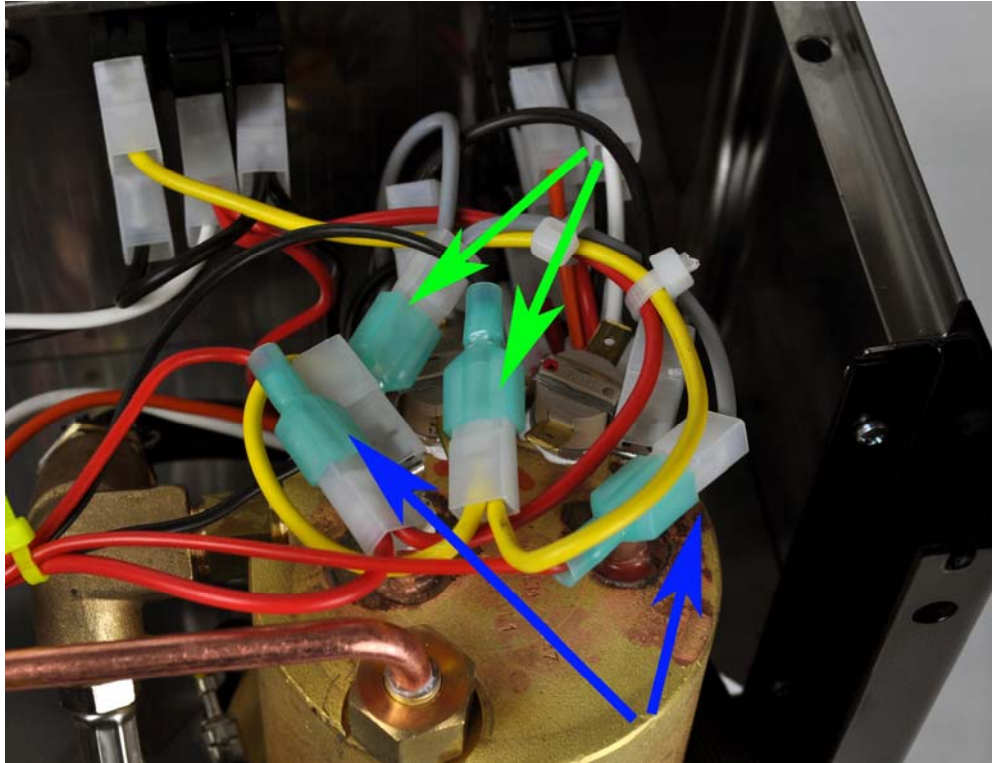

Figure 19. SSR output connections to thermostats cable
- 3) As shown in Figure 19, the blue arrows show the red cables from SSR output are connected to the cables originally were on the brew control thermostat. The green arrows show the